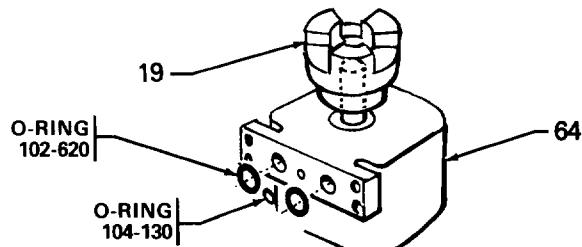

Fig 12
- Unplug the unit, follow the **Pressure Relief Procedure Warning** on page 13, remove the shield (114) and disassemble the unit as explained under "Replacing the Electric Motor".
- Loosen the setscrew in the coupling half (19) and push the coupling against the hydraulic pump. See Fig 12. Take out the four screws (1) and washers (22) and remove the hydraulic pump. Discard the o-ring seals.
- Remove the adjusting sprocket retaining nut (29) and pull the sprocket off the adjusting nut.
- Apply light grease to the o-rings and put them in place on the pump mounting. Put the coupling half on the shaft of the new pump and leave it loose. See Fig 12.